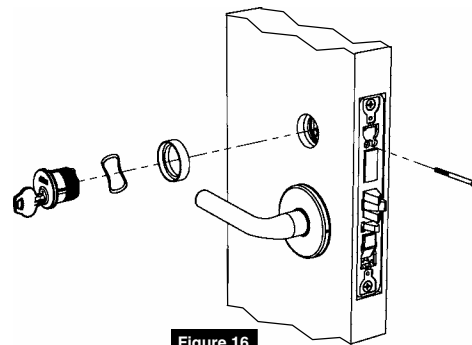

Figure 16
9. Install cylinder with wave spring and collar. Secure with cylinder set screw. (Figure 16)